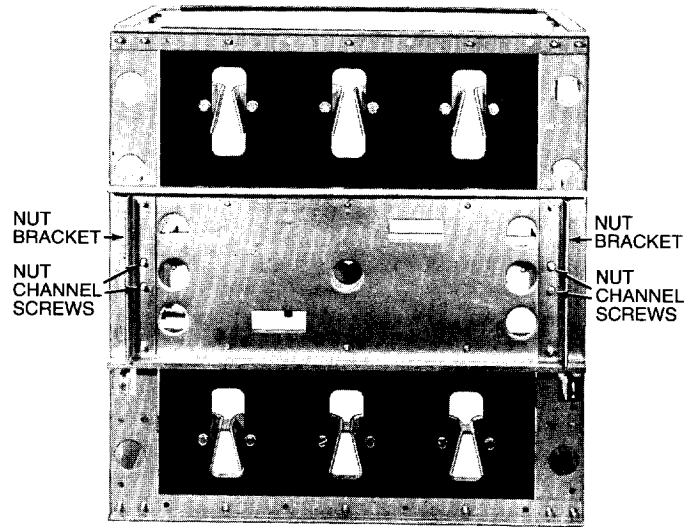
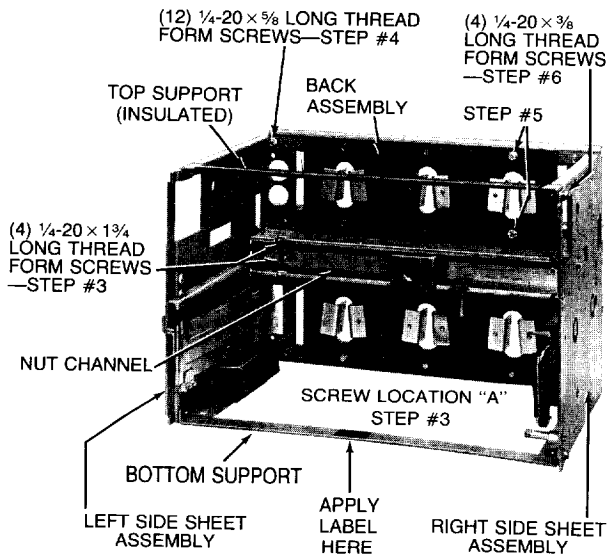
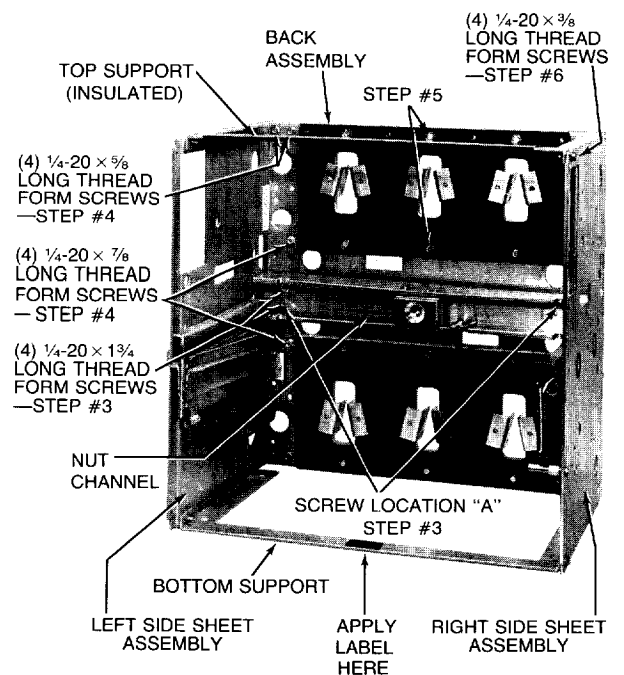
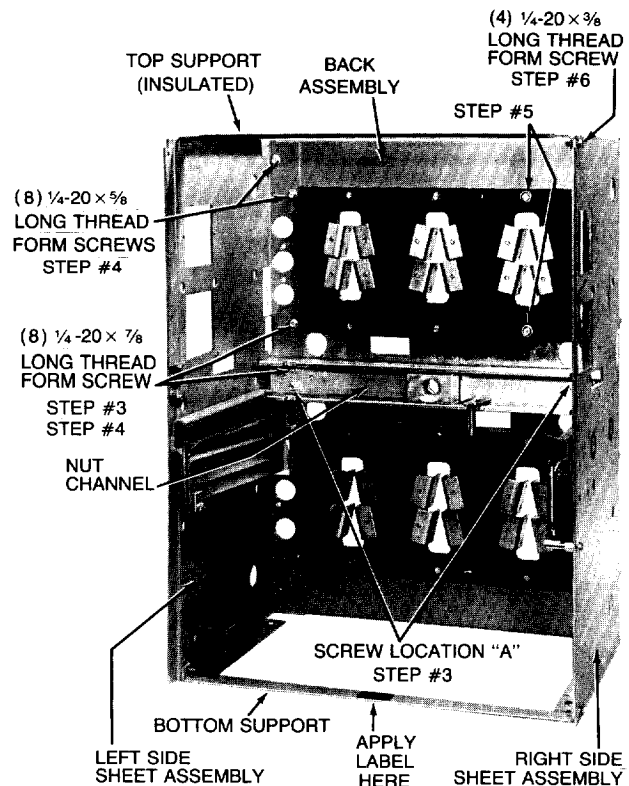

Fig. 7 Back view showing assembly of nut brackets used on 800-3000A units
Fig. 8 800A unit front view.
Fig. 12 1600/2000A unit front view.
Fig. 15 2500/3000A unit front view.
Lay the back assembly face up on a bench, or work surface, and start (4) 1 $\frac{3}{4}$ " long thread form screws through the nut channel, back channel, and into the nut brackets shown in Fig. 7. Next tighten the two diagonally opposite screws located in "A", Fig. 8 or 9, then the two remaining screws.
Position the left side sheet assembly, as shown in Fig. 8 or 9, and first drive the (2) 5/8" long screws into the nut bracket, followed by (4) 5/8" long screws top and bottom. Repeat for the right side sheet assembly.
Apply the label at position shown in Fig. 8 or 9.
Lay the back assembly face up on a bench or work surface, and start (4) 1/4-20 x 1 3/4" long thread form screws through the nut channel, back channel, and into the nut brackets as shown in Fig. 7. Next tighten the two diagonally opposite screws, location "A", Fig. 12, then, the two remaining screws.
Position the left side sheet assembly as shown in Fig. 12 and first drive the (2) 7/8" long thread form screws into the nut bracket, followed by (4) 5/8" long thread form screws top and bottom. Repeat for the right side sheet assembly.
Apply the label at position shown in Fig. 12
Lay the back assembly face up on a bench or work surface, and start (4) 7/8" long thread form screws through the nut channel, back channel, and into the nut brackets as shown in Fig. 7. Next, tighten the two diagonally opposite screws, location "A", Fig. 15, then the two remaining screws.
Position the left side sheet assembly as shown in Fig. 15, and first drive the (2) 7/8" long form thread screws into the nut bracket, followed by (4) 5/8" long thread form screws top and bottom. Repeat for the right side assembly.
Apply the label at position shown in Fig. 15.